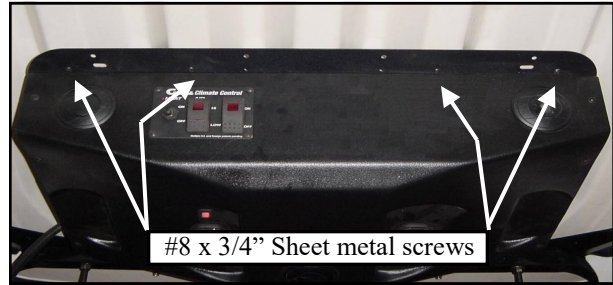

Figure 2.6 (view forward from center of seat - old style roof)
2.6 This step is for the old style roof (47-3/4" wide, side to side at handles). If you have a new style roof, skip to step 2.7. With the back of the heater unit still supported, install four #8 x 3/4" long screws through the four holes shown in fig. 2.6 and into the ribs in the roof. **CAUTION: these thread into plastic. Do not over-tighten. Over-tightening may damage the plastic threads and cause them to strip out.** Skip to step 2.8.